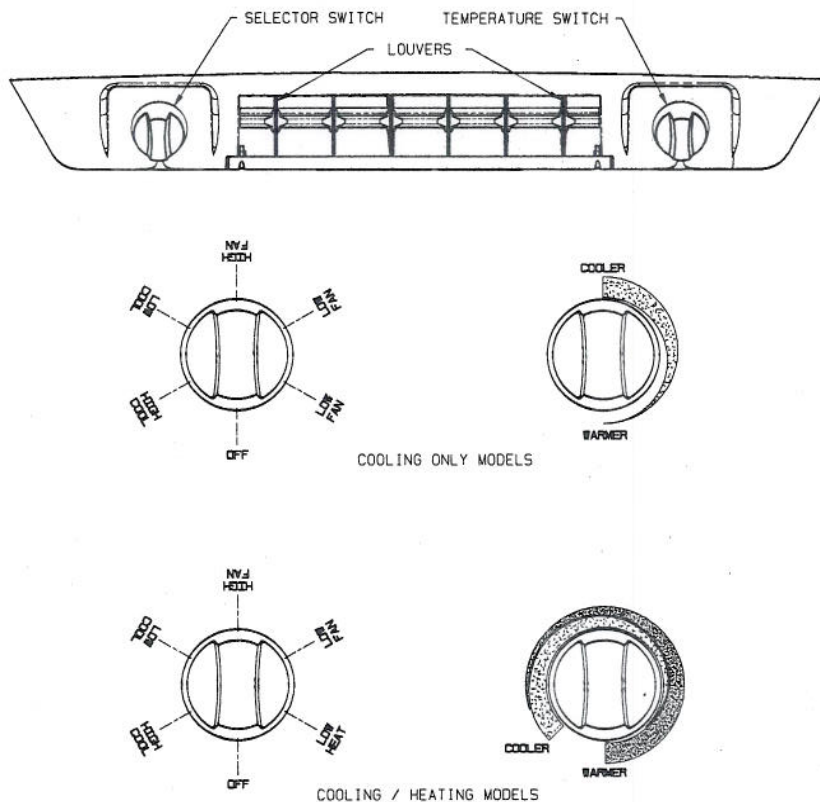

FIGURE 1
A. The Selector Switch – The selector switch determines which mode of operation the air conditioner will be in. By rotating the selector switch, the operator can obtain any system function desired. System functions vary depending upon options of both the roof top unit and ceiling assembly. Figure 1 shows selector switch location and lists all available functions by model.
For "Heat/Cool" models, the thermostat also controls the "ON" and "OFF" temperature settings of the heater assembly (See Figure 1).
- I. **For Cooling (Refer to Figure 1, page 3).**
IV. For Heating ("Elect-A-Heat" Ceiling Assembly Model Only) Refer to Figure 1, page 3).
V. For Air Circulation Only (Refer to Figure 1, page 3).